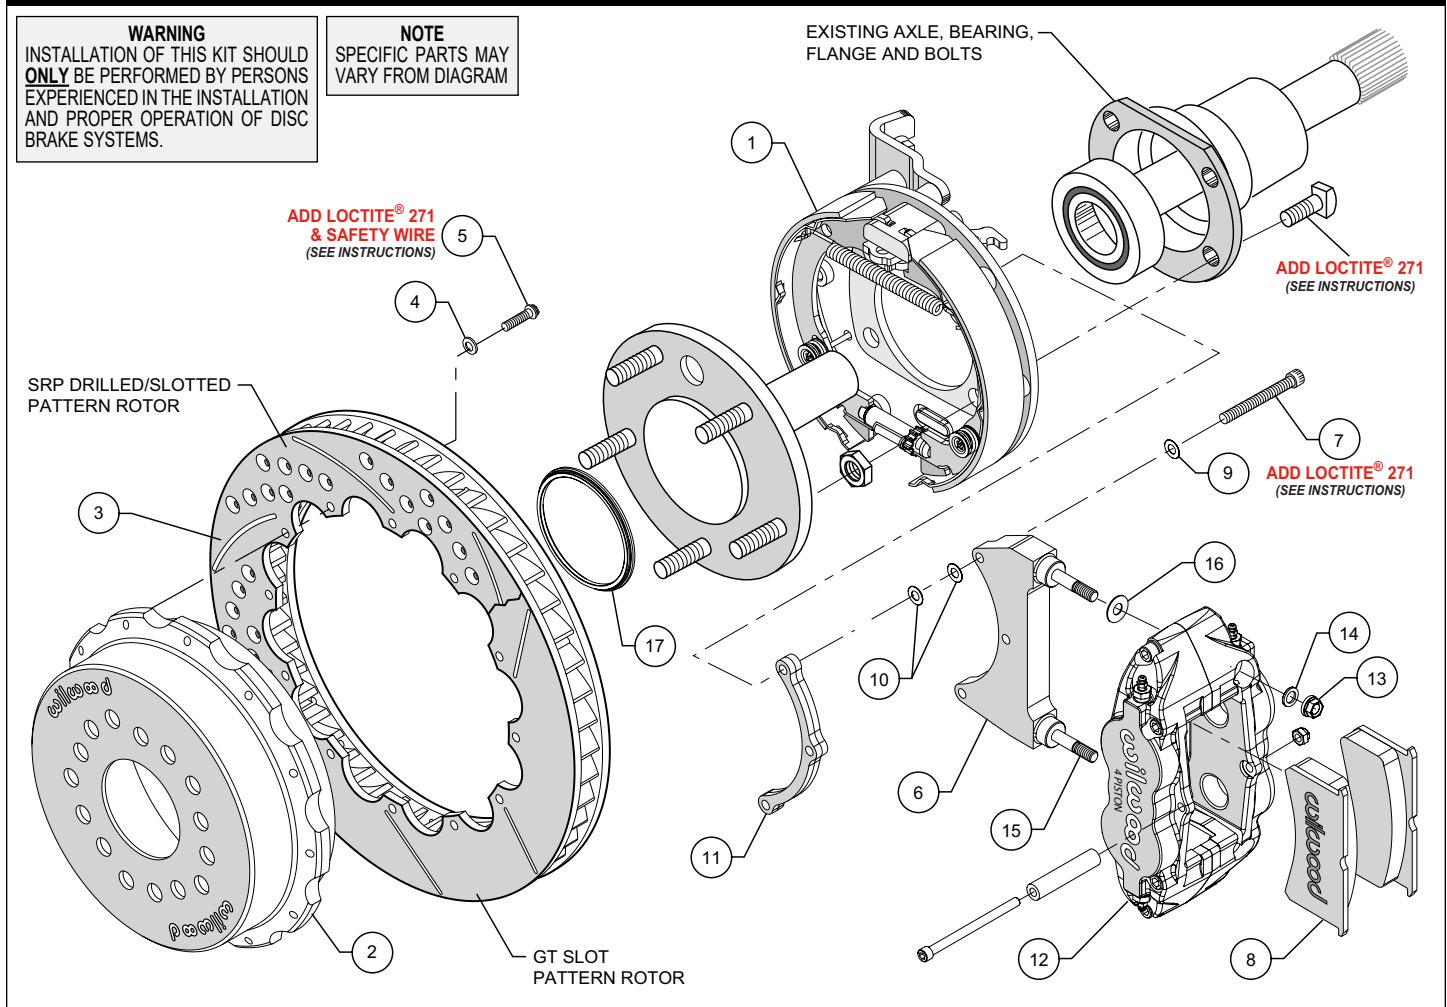
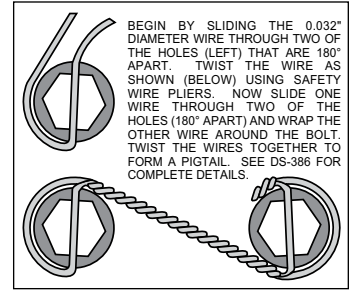

Figure 1. Typical Installation Configuration
Figure 4. Safety Wire Diagram
Assembly Instructions (numbers in parenthesis refer to the parts list and Figure 1 on the preceding pages): **CAUTION:** All mounting bolts must fully engage threaded holes.
- Orient the bracket assembly (1), as shown in Figure 1, and mount to the axle housing flange using the Original Equipment Manufacturer (OEM) bolts and nuts, Figure 1. Ensure that the bracket assembly backing plate fits flush against the axle housing flange. Apply red *Loctite*® 271 to the OEM bolt threads and torque to OEM specifications.
- Orient the rotor (3) and the hat (2) as shown in Figure 1 and Photo 1. Attach rotor to hat using bolts (5) and washers (4). Apply red *Loctite*® 271 to the bolt threads and torque to 155 **in-lb** using a criss-cross pattern. For an added measure of security, the bolts may be safety wired using standard 0.032 inch diameter stainless steel safety wire as shown in Figure 4. Please refer to Wilwood's data sheet DS-386 (available at www.wilwood.com/Pdf/DataSheets/ds386.pdf) for complete safety wire installation instructions.
•Slide the rotor registration adapter (17) onto the axle register on the axle flange with the smaller O.D. facing outward, Figure 1 and Photo 2. Align the correct hole pattern in the rotor/hat (2/3) with the stud pattern on the axle flange and slide into place, Figure 1. **NOTE:** The hat must fit flush against the axle flange or excessive rotor run out may result. Install three lug nuts (finger tight) to keep the rotor/hat assembly in place while continuing with the installation. **NOTE:** Some OEM and after market axles come with stud sizes larger than 0.50" diameter. Verify stud size and have a qualified machine shop drill the bolt circle of the hat/rotor to the correct stud size, if necessary.
•**NOTE:** Please reference the caution statement at the beginning of the assembly instructions. The caliper mount bracket assembly (6) should initially be installed with clean, dry threads on the mounting bolts. Orient the bracket as shown in Figure 1 and Photo 3. Attach the bracket using bolts (7), flat washers (9), and spacer (11), Figure 1 and Photo 3. **NOTE:** End of bolt should not exceed inside face of insert. The bracket must tighten squarely against the back side of the bracket kit assembly. Inspect for interference from the axle flange. Initially place two .015" thick shims (10) on each bolt between the bracket (6) and the spacer (11), Figure 1.
•Initially place one .035" thick shim (16) on each stud between the caliper and the bracket, as shown in Figure 1 and Photo 4. Mount the caliper (12) onto the bracket (6) using lock nuts (13) and washers (14), Figure 1. Temporarily tighten the lock nuts and view the rotor through the top opening of the caliper. The rotor should be centered in the caliper, Photo 5. If not, adjust by adding or subtracting shims (10) between the bracket and the spacer (11). Always use the same amount of shims on each of the three mounting bolts. Once the caliper alignment is correct, remove the bracket mounting bolts one at a time, apply red *Loctite*[®] 271 to the threads, and torque to 180 in-lb.